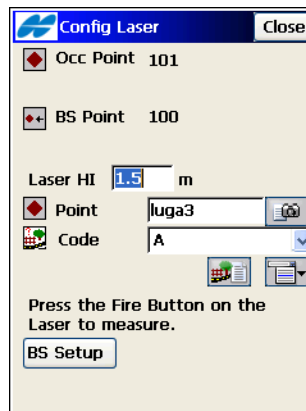

Figure 9-14. Config Laser
- **OK** – saves the settings and opens the **Config Laser** screen (Figure 9-14 on page 9-15) for lasers with an Encoder.
The *Config Laser* screen (Figure 9-14) defines the laser height and point information.